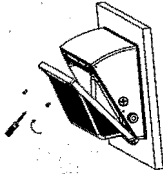

Fig. 18
14. Close the front-cover and lock with the two screws saved. (Fig. 18)